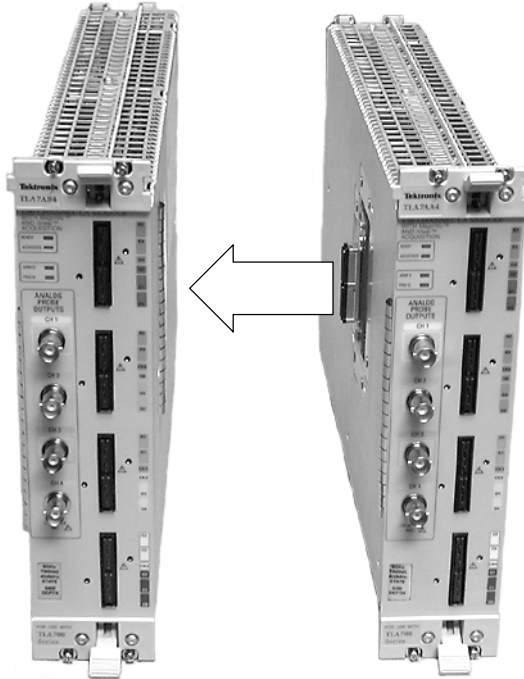

Figure 18: Connecting modules in a merged set
6. Place the first pair of modules to be merged side-by-side such that the merge connector assemblies line up and connect between the two modules (see Figure 18).